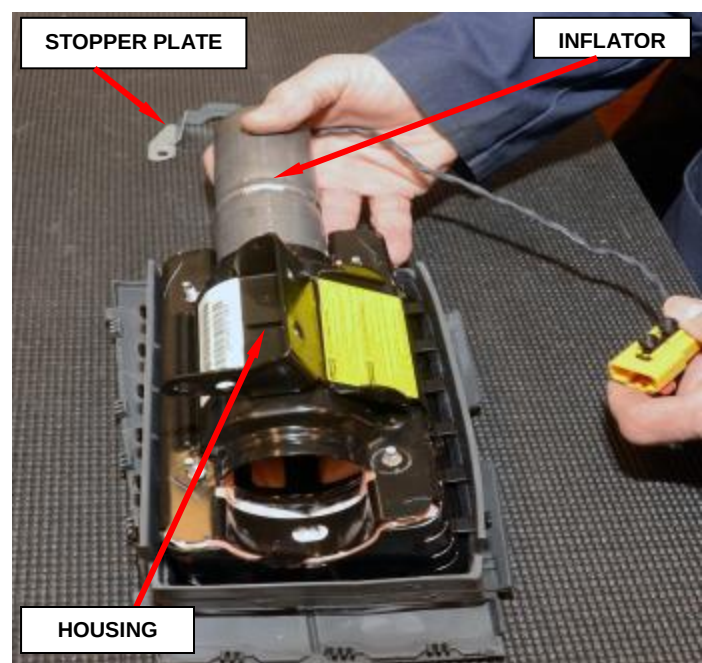

Figure 53 – Inflator Removal
- f. Slide the inflator out of the housing (Figure 53).